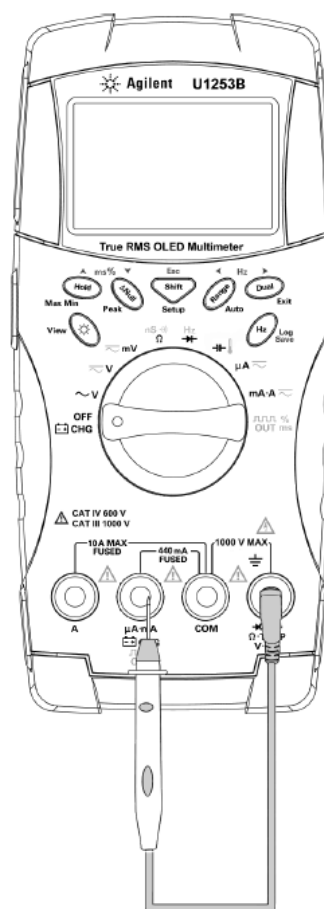

Figure 5-8 Fuse checking procedures
- 3** To test Fuse 1, place the tip of the test probe on the right half of input terminal . Ensure that the probe tip touches the metal inside the input terminal, as shown in Figure 5-8.